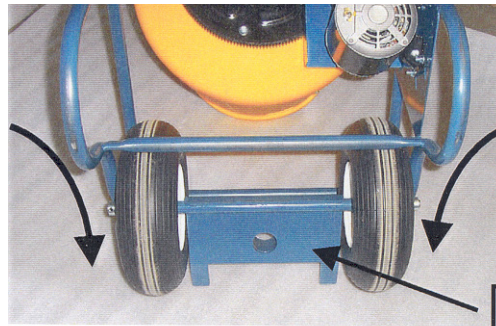

Figure 2 - Tip mixer up, Pivot Mount Plate freely rotates down
1. Tip mixer, as if dumping contents, and place squarely on opening of drum. The pivot mount plate will rotate freely about the wheel axle from its wheelbarrow stowed position. (Figure 2)